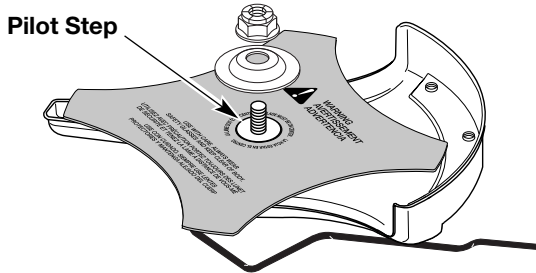

Fig. 12
5. Make sure that the cutting blade is centered on the pilot step and sitting flat against the output shaft bushing (Fig. 12).